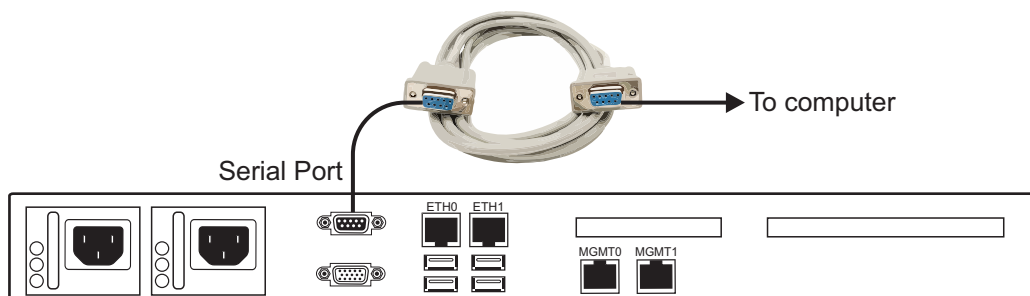

Figure 9.1 7800-CTRL Serial Port Connection
1. Connect a null modem DB9 female-female cable between the DB9 serial port of your computer and the DB9 serial port of the 7800-CTRL. See Figure 9.1 on page 60.